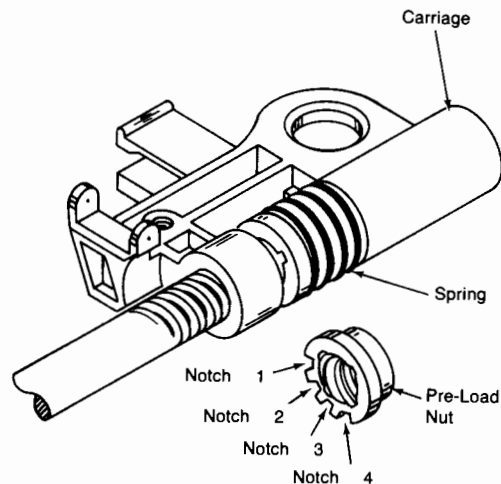

Figure 3-11. Setting the Pre-Load Nut
7. If installing a new carriage, set the pre-load nut in notch 3 (see Figure 3-11).